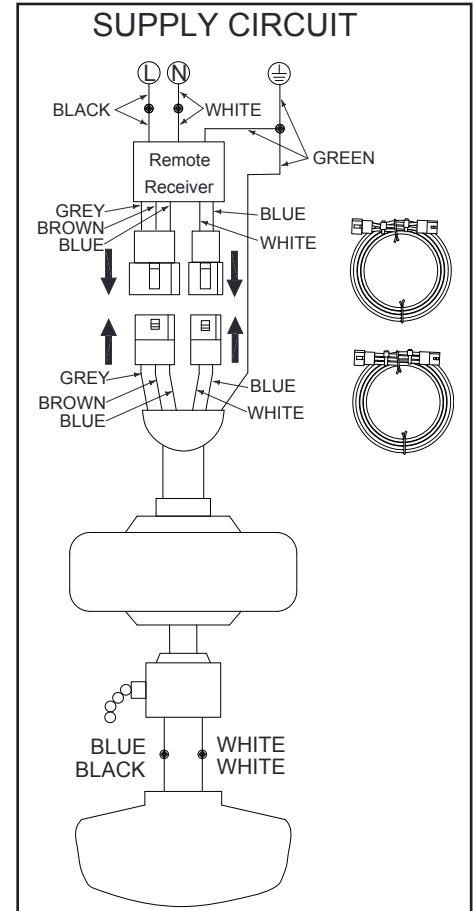

Figure 11
1. If using the 6 in. ball downrod assembly provided, wire the receiver to the fan wires by connecting the molded adaptor plug from this receiver with the molded adaptor of the fan motor assembly together. (Figure 11)